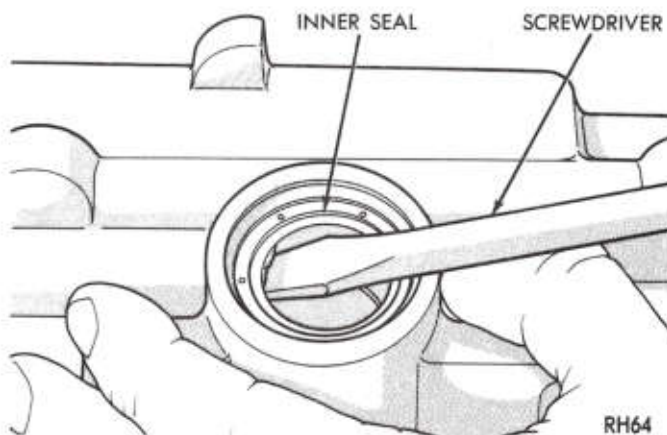
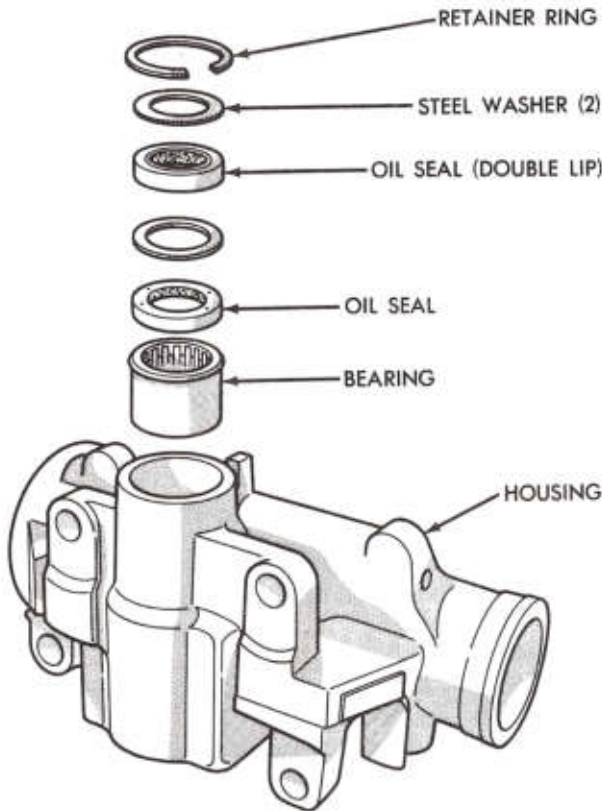

Fig. 19—Pry Out Inner Seal
Fig. 20—Sector Shaft Bearings and Seals
(1) Remove the seal retaining ring using internal pliers C-3915 and remove outer steel washer. Pry out seal using screwdriver (Fig. 19). Remove inner steel washer, then pry out seal; discard seals. (Fig. 20).